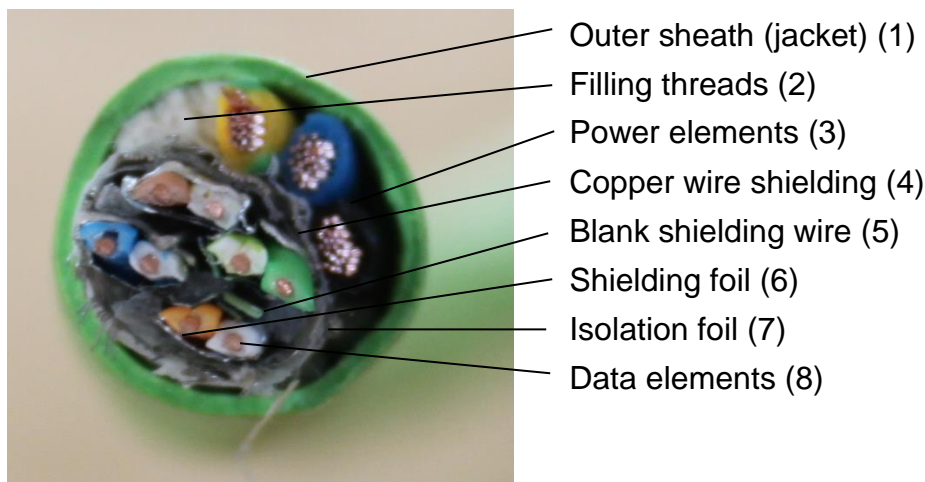

Figure 2.1 – Cable cross section
Strip 25 cm off the green jacket (q.v. chapter 2.1, figure 2.1 (1)) and cut off the isolation foil (7). Please make sure not to damage the individual wires of the connecting cable. Cut off the white filling threads (2) and remove the foil around the network cables (6). Then separate the shield and cut off the blank shielding wire (5) and the shielding braid (4) so that the foil around the cables can be removed. To prepare the twisted pairs (8) for the kneading screw connection, they need to be untwisted.